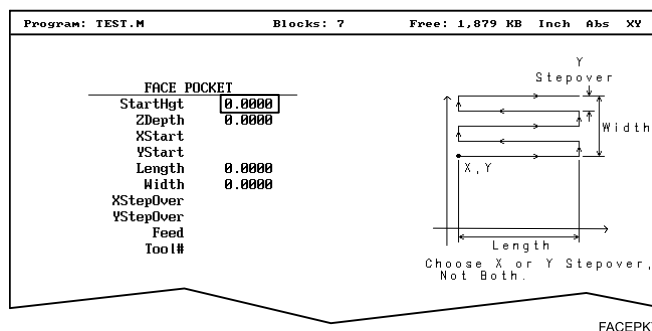

Figure 5-10, FACE POCKET Graphic Menu
2. Move the highlight to select **Face**, and press **ENTER** to display the **FACE POCKET** Graphic Menu. Refer to **Figure 5-10**.